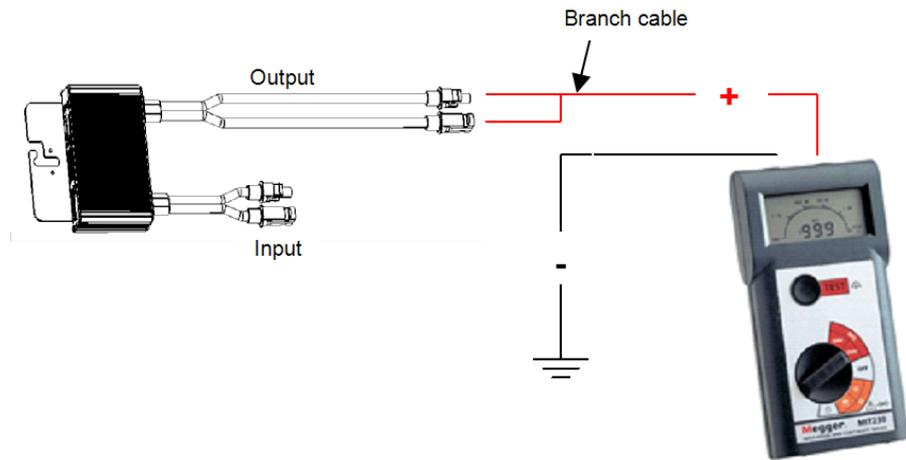

Figure 4: Connecting the insulation tester to the power optimizer
- b. Connect the power optimizer's positive and negative output connectors to the branch cable (Figure 4).